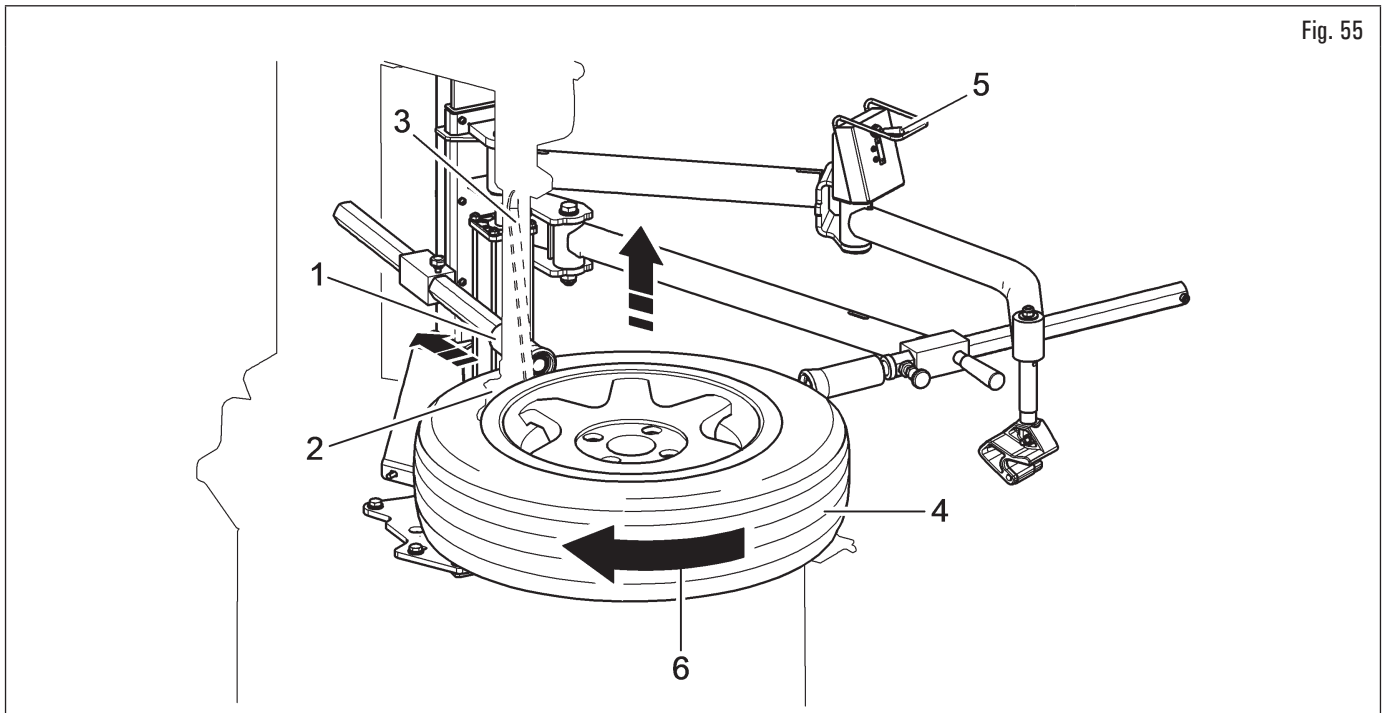

Fig. 55
2. insert the bead lever (Fig. 55 ref. 3) between the tyre (Fig. 55 ref. 4) and the toolhead (Fig. 55 ref. 2);
3. lift the device by moving the corresponding lever upwards (Fig. 55 ref. 5); then move the roller backward (Fig. 55 ref. 1) to avoid interferences with the tyre;
4. load the bead on the toolhead using the proper lever (Fig. 55 ref. 3);
5. dismount the first bead, by turning the chuck clockwise (Fig. 55 ref. 6).